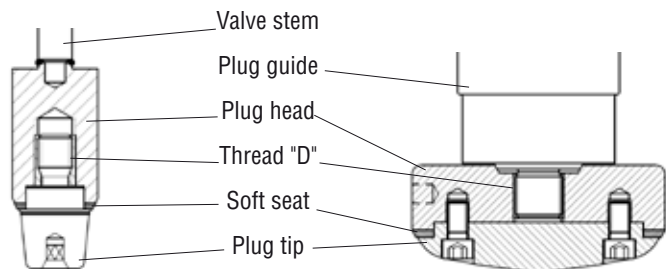

Fig. 5: Soft Seat Designs
7.1.2.3 If the soft seat is damaged replace with a new insert (see Fig 5). Ensure the new insert is centred on the plug tip. The bevel of new insert must be aligned with the mating surface of the seat ring.
* See Fig 5